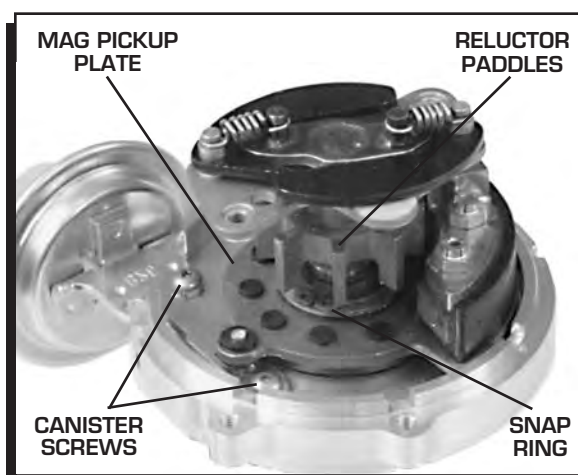

Figure 13 Removing the Vacuum Canister.
1. Remove the two Allen head screws that hold the advance canister (Figure 13).